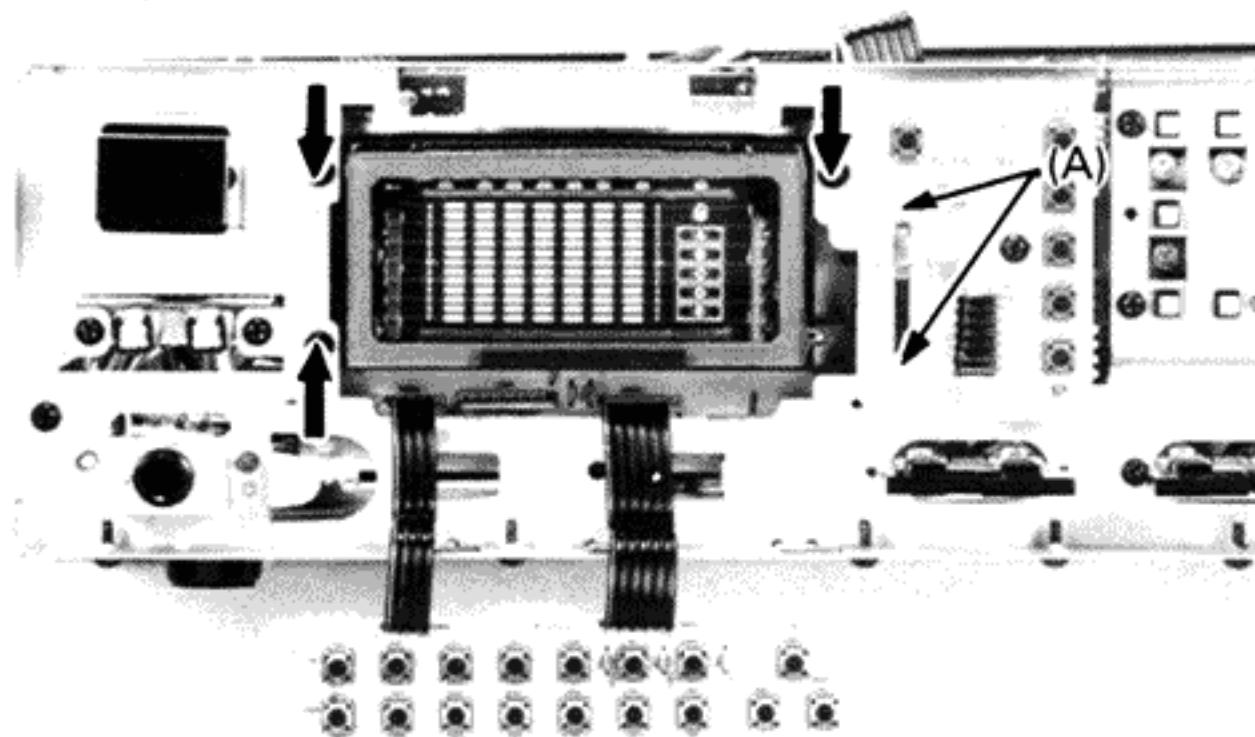

Fig. 4
1. Remove 3 screws, as shown in Fig. 4.
2. Remove 2 retaining screws (A) from the slide variable resistor.